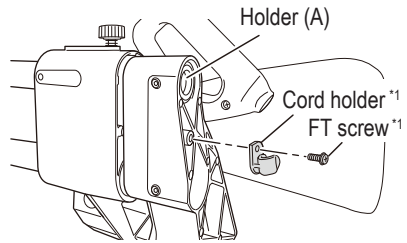

Fig. 56
- (1) Using a Phillips screwdriver, firmly fasten the hook to the holder (A) with the screw. (Fig. 56)